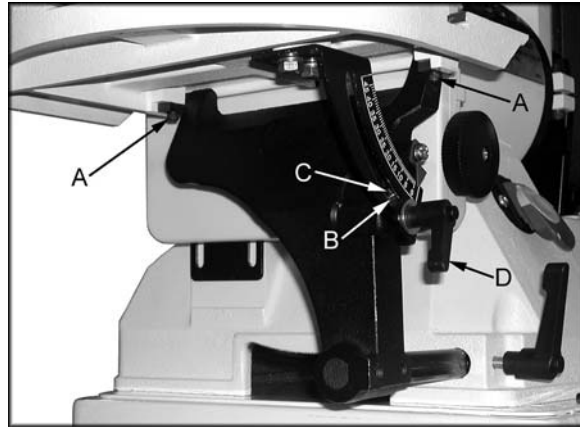

Figure 13
4. If the miter slot is not parallel, loosen the two socket head cap screws (A, Fig. 13) and adjust for parallel. Tighten the two screws when the adjustment is complete.
5. Always maintain a gap of approximately 1/16" between the table edge and disc. Once the table is square and parallel to the disc adjust the 90° stop. Loosen hex nut (B, Fig. 13) and tighten the set screw (C, Fig. 13) until it contacts the trunnion. Tighten hex nut.
7. The table can be tilted between 0°-45° by loosening the handle (D, Fig. 13) and tilting the table to the desired angle. Tighten the handle. Always maintain a gap of approximately 1/16" between the table edge and disc.